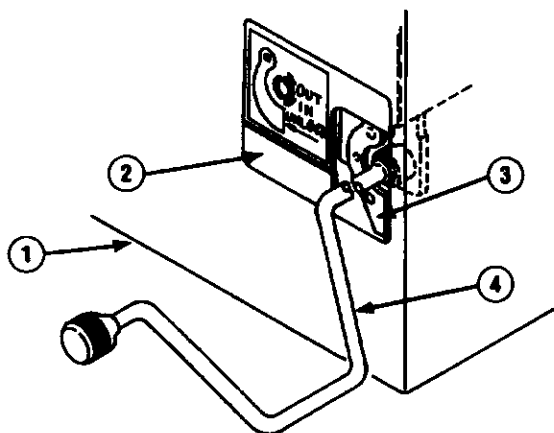

Fig. 4 — Method of Racking Circuit Breaker
Engage racking crank (4, Fig. 4) and push racking unlocking lever (3) to left, then rotate racking crank counterclockwise only until resistance to motion is felt (DO NOT FORCE). If closing springs were left in the "charged" condition, they will automatically discharge.
To rack circuit breaker to "TEST" position, push racking unlocking lever (3, Fig. 4) to left, rotate racking crank approximately 1/4 turn clockwise, then release unlocking lever. Continue cranking until racking mechanism automatically stops at "TEST" position.
When racking circuit breaker to "CONNECTED" position, close compartment door (1, Fig. 4) and insert racking crank (4, Fig. 4) through sliding panel (2, Fig. 4).